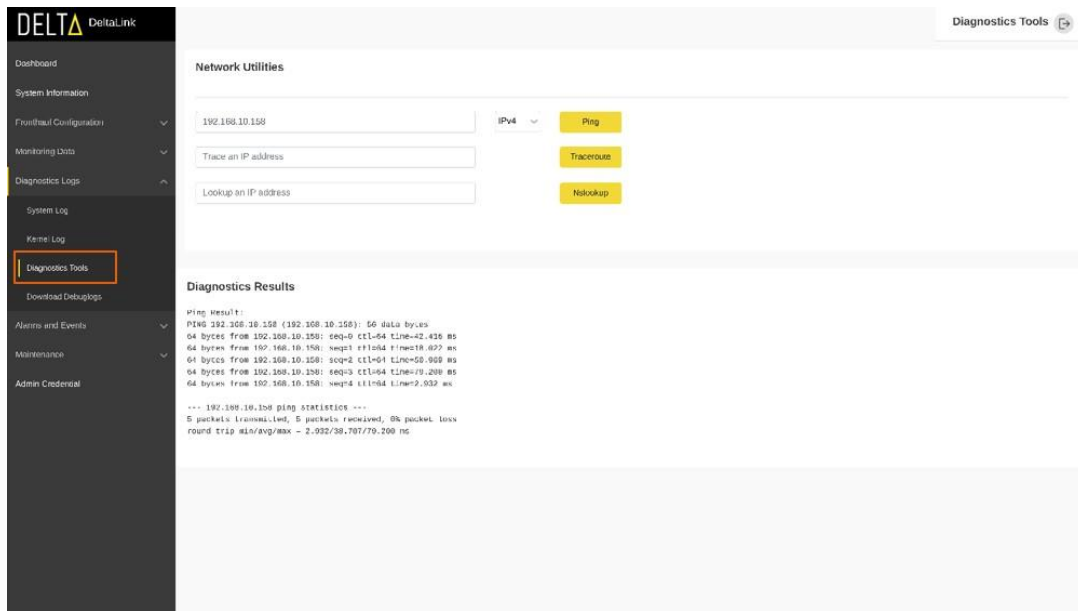

Figure 48 Diagnostics Tools
- To verify network functionalities in the device, navigate to “Diagnostics Logs” and select “Diagnostics Tools” from the expanded menu as shown in the Figure 48 below.